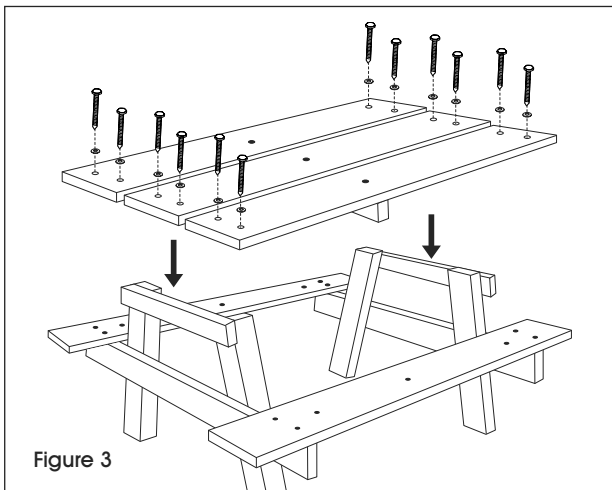

Figure 3
6. Place the three tabletop boards on the A-Frame bases. Align the pre-drilled holes with the A-Frame base. Loosely attach tabletop board slats to A-Frame base with the 3 1/2" lag screws and washers using the power drill and 7/16" socket bit (will tighten later in step 8). (See Figure 3)